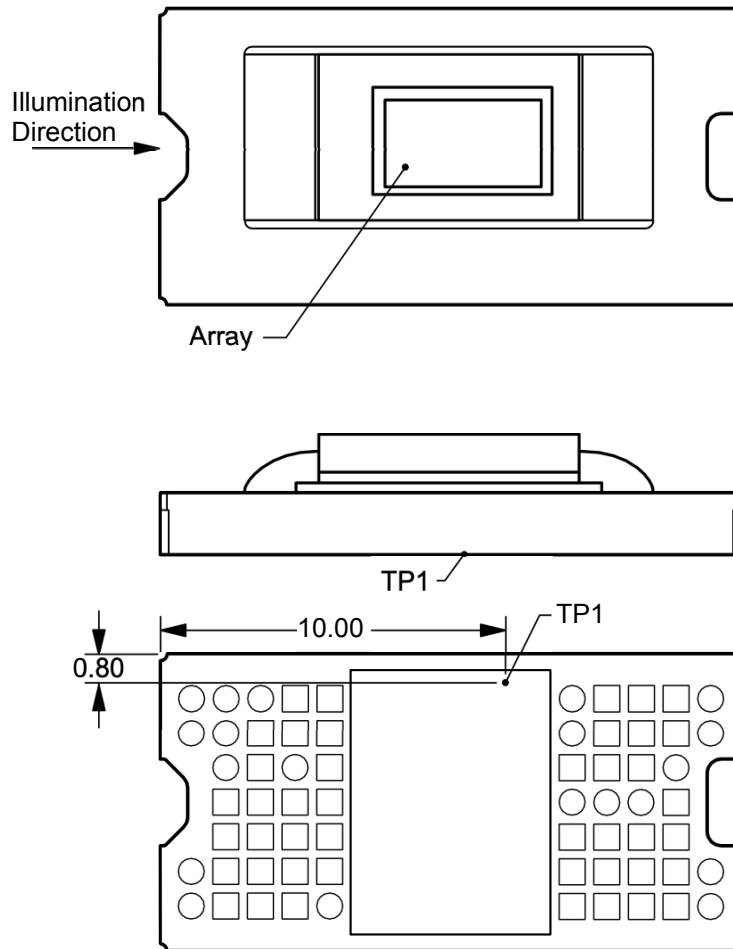

图 8-4. Thermocouple Location
Relationship between array temperature and the reference ceramic temperature (thermocouple location TP1 in 图 8-4) is provided by the following equations.
- T_{CERAMIC} = measured ceramic temperature (TP1 location in 图 8-4) (°C)